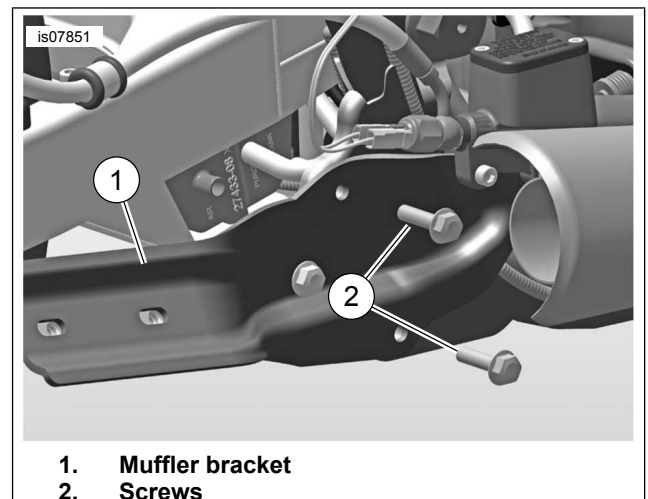

Figure 2. Remove Screws
2. See Figure 2. Remove two screws (2). Retain for assembly.